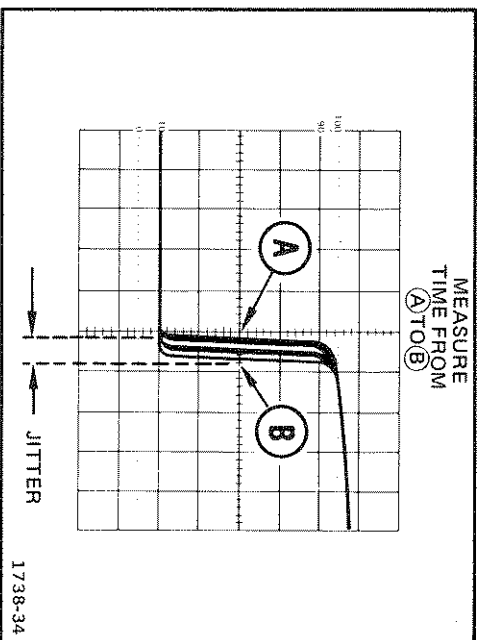

Figure 22. Pulse jitter.
2. Referring to Figure 22, measure the difference between Point A and Point B in divisions and calculate the pulse jitter time using the following formula: